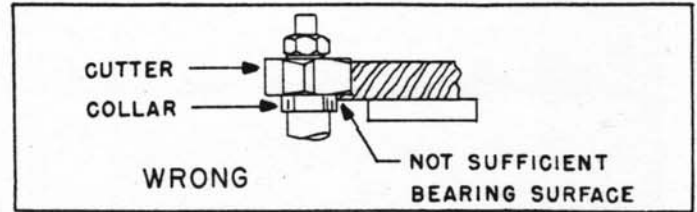
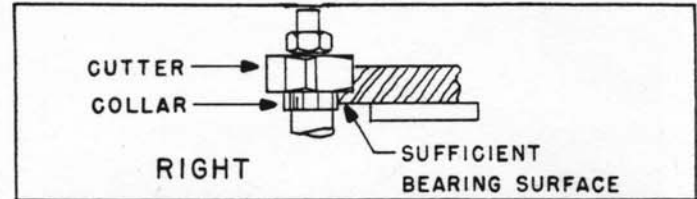

Fig. 12
Fig. 13
3. A portion of the edge of the work **MUST** remain untouched by the cutters in order that the collar will have sufficient bearing surface. Fig. 12 illustrates the wrong way for this operation while Fig. 13 illustrates the right way.